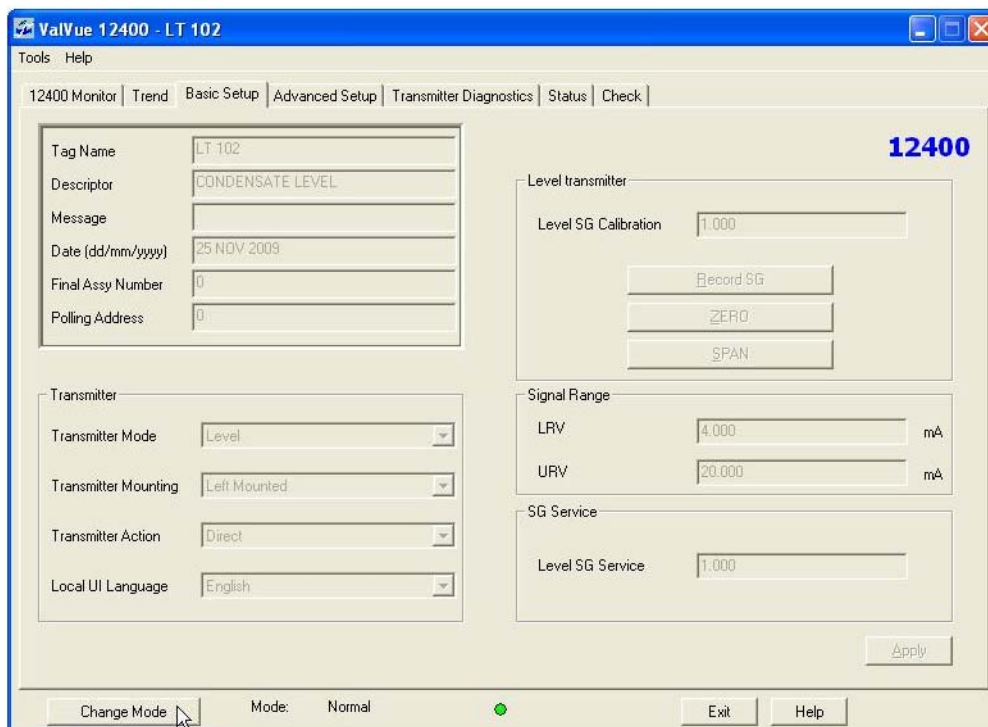

Figure 75 Selecting Change Mode
1. Click **Change Mode** as (Figure 75).